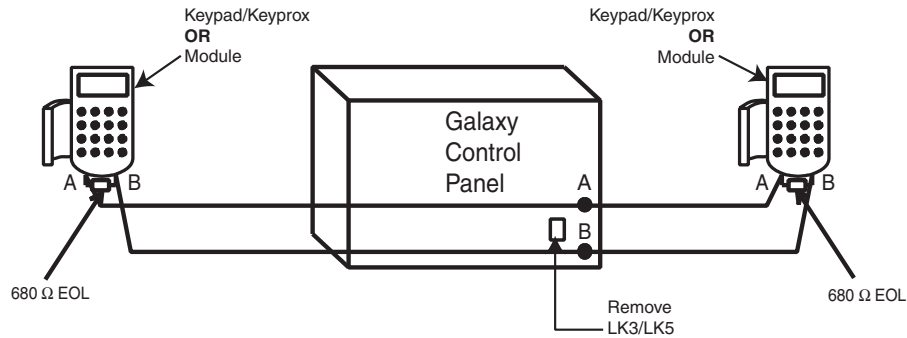

Figure 2-7. Twin AB Line Daisy-Chain configuration
4. Shielded twisted pair cable, where used, is connected to the earthing pillar on the Galaxy control panel using the P-clip and nut supplied (refer to Figure 2-7).